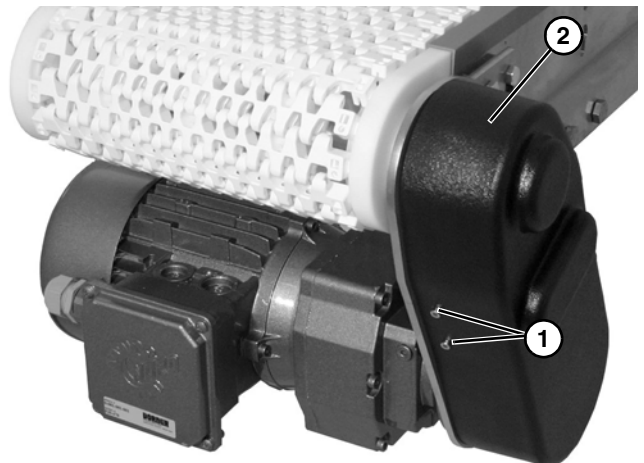

Figure 13
1. Remove four screws (Figure 13, item 1) and remove cover (Figure 13, item 2).